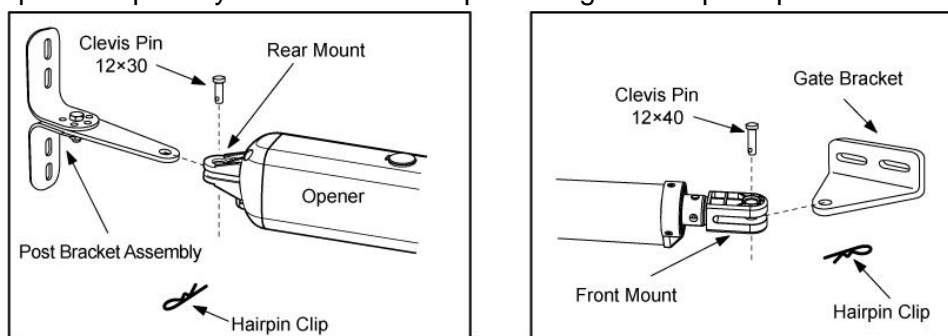

Figure 7
2. Attach the Gate Bracket Assembly and Post Bracket Assembly to the opener by inserting a clevis pin. Temporarily secure the clevis pins using the hairpin clips as shown in Figure 7.